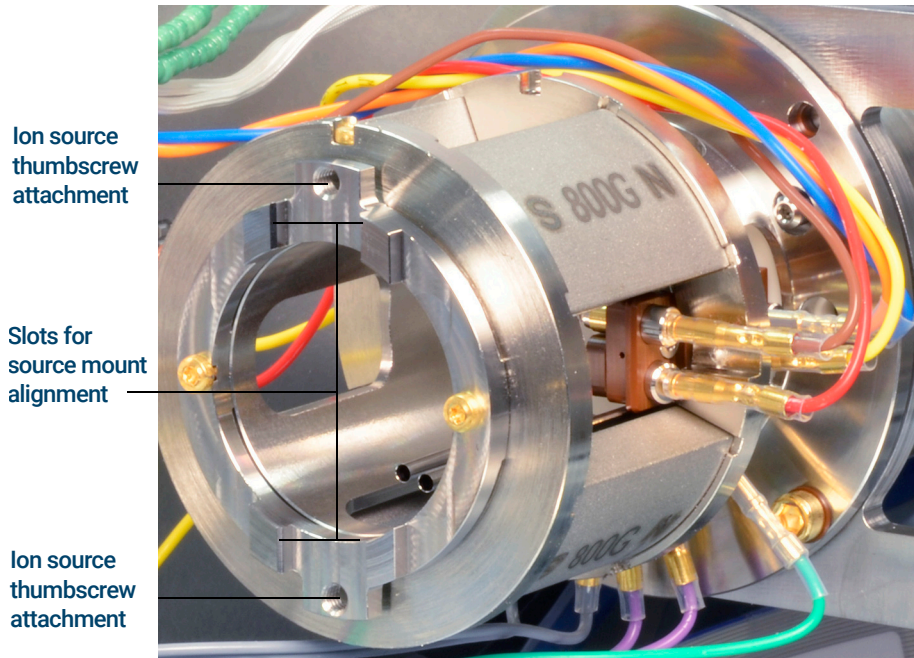

Figure 36. The ion source radiator
- 2 Align the ion source so that the slotted opening for the lens stack, where the lens numbers are visible, is on the right side. Also, position it so the two attachment tabs of the source mount align with the corresponding slots in the source radiator. (See **Figure 36**, “The ion source radiator,” on page 123.) Slide the ion source into the source radiator until resistance is felt.